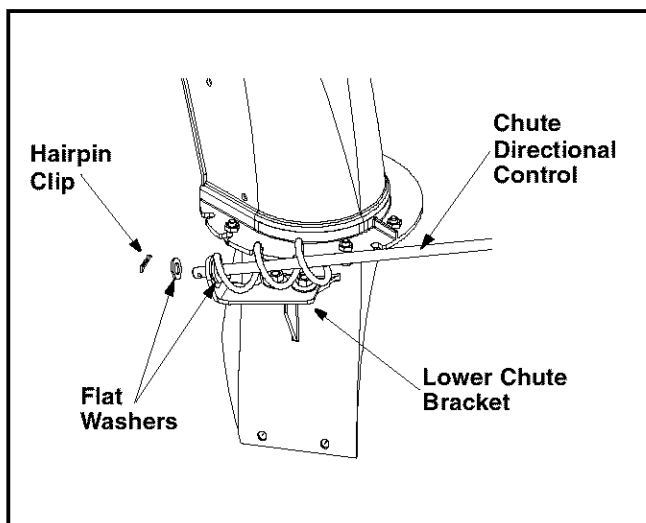

Figure 8
- Place another flat washer on the end of the chute directional control, and insert hairpin clip into hole in the end of control. See Figure 8.